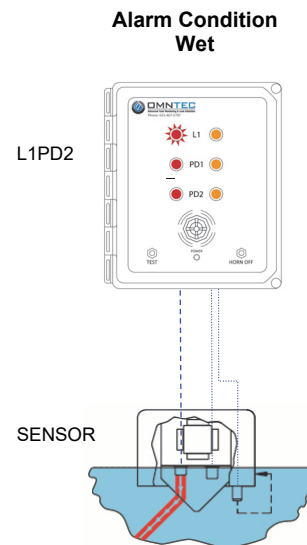

Figure 2
- a) Optical sensors are solid state and use a normally closed light loop in a prism for sensing. When liquid is present at sensor, the normally closed loop opens, thus sending an alarm signal back to the alarm panel. The panel responds by turning on the appropriate light and sounding an audible alarm (see figure 2). The audible alarm will signal for 30 seconds. The visual alarm will remain on until alarm condition is cleared.